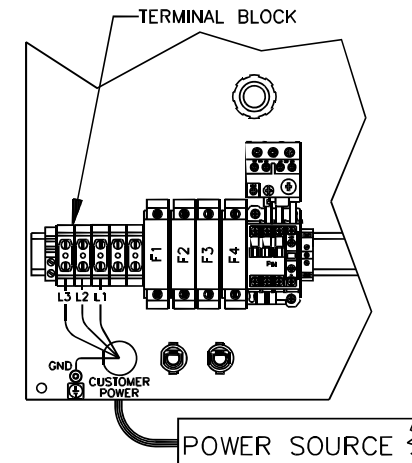

Figure 2-21. Power Panel
2. Remove the four screws that mount the door to the machine and set the door aside. The terminal block is located at the lower, left-hand corner of the power panel. The ground screw is located beneath the terminal block as shown in Figure 2-21.
7. Fasten the ground lead to the ground terminal lug, labeled GND in Figure 2-21.
8. Fasten the three power leads to the three terminals **L1**, **L2**, and **L3** (Figure 2-21) on the main power terminal block.